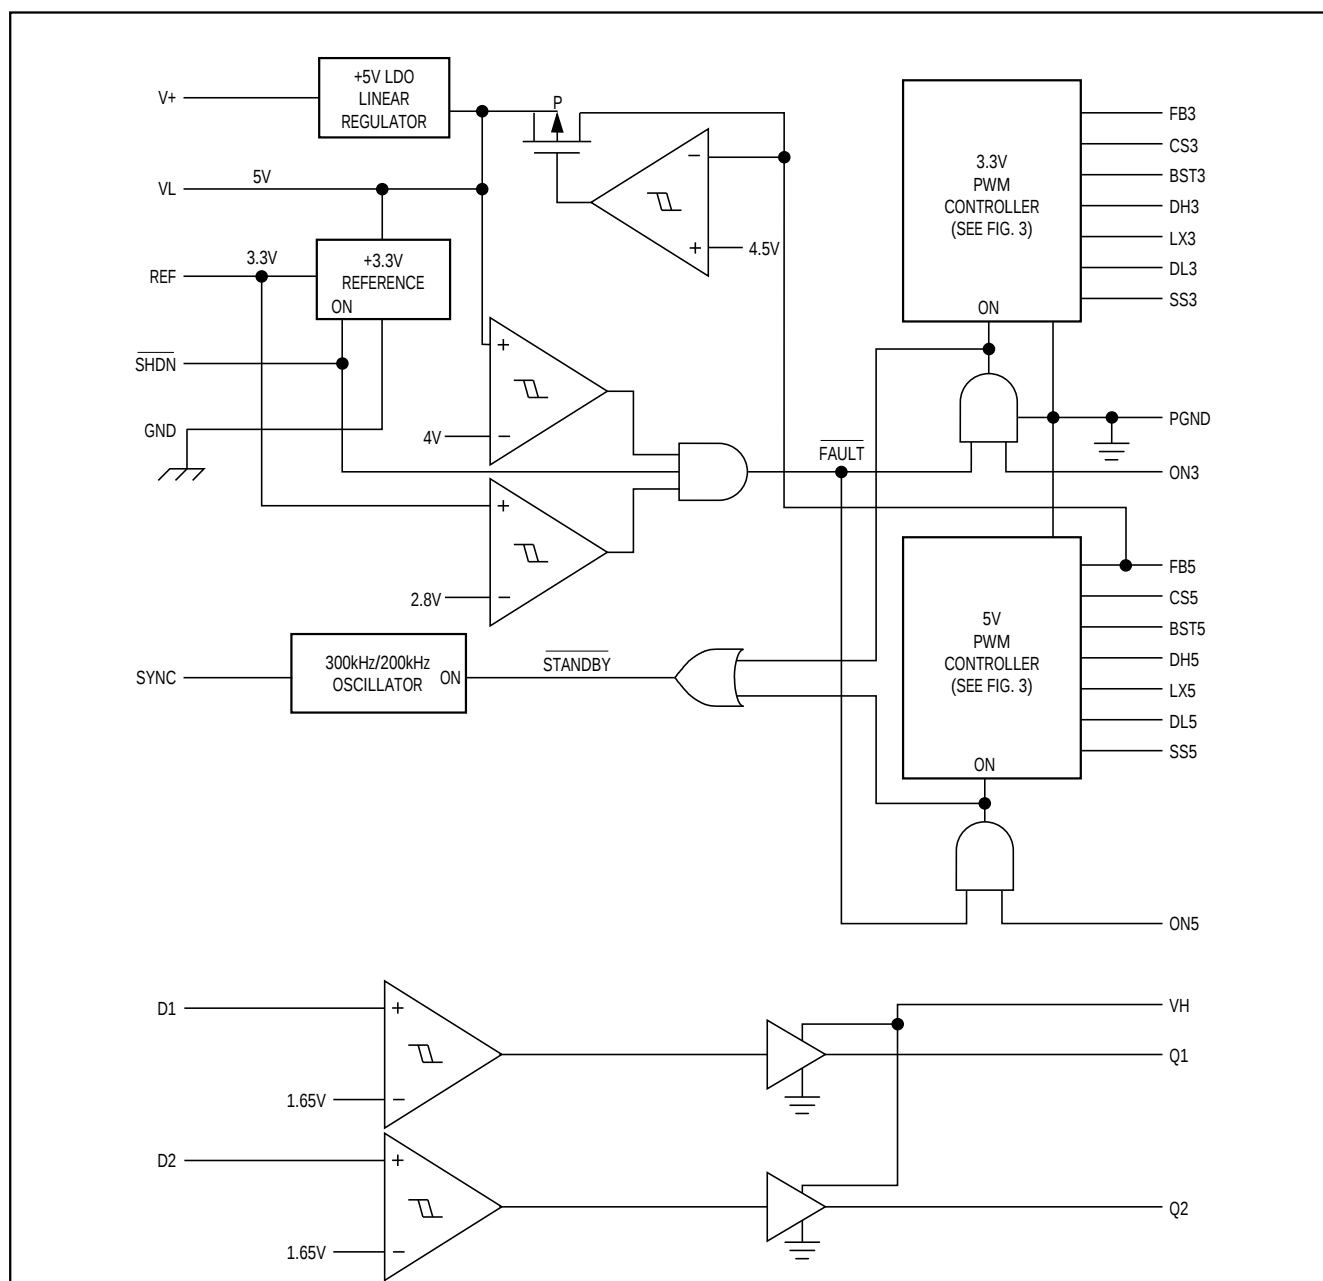

Figure 2. MAX786 Block Diagram
The MAX786 converts a 5.5V to 30V input to four outputs (Figure 1). It produces two high-power, PWM, switch-mode supplies, one at +5V and the other at +3.3V. The two supplies operate at either 300kHz or 200kHz, allowing for small external components. Output current capability depends on external components, and can exceed 6A on each supply. An internal 5V, 5mA supply (VL) and a 3.3V, 5mA reference voltage are also generated via linear regulators, as shown in Figure 2. Fault protection circuitry shuts off the PWMs when the internal supplies lose regulation.